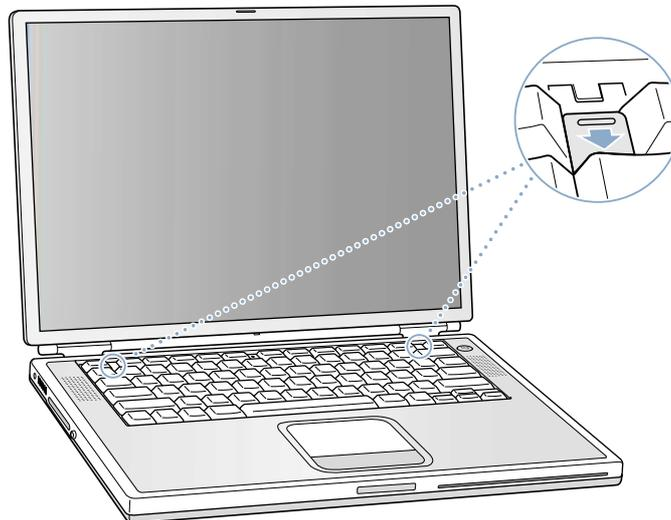

Figure 3
9. Release the keyboard by pulling down on the keyboard release tabs (located to the left of the F1 and F12 keys) (**Figure 3**), then lift the top portion of the keyboard up slightly, and toward the display.